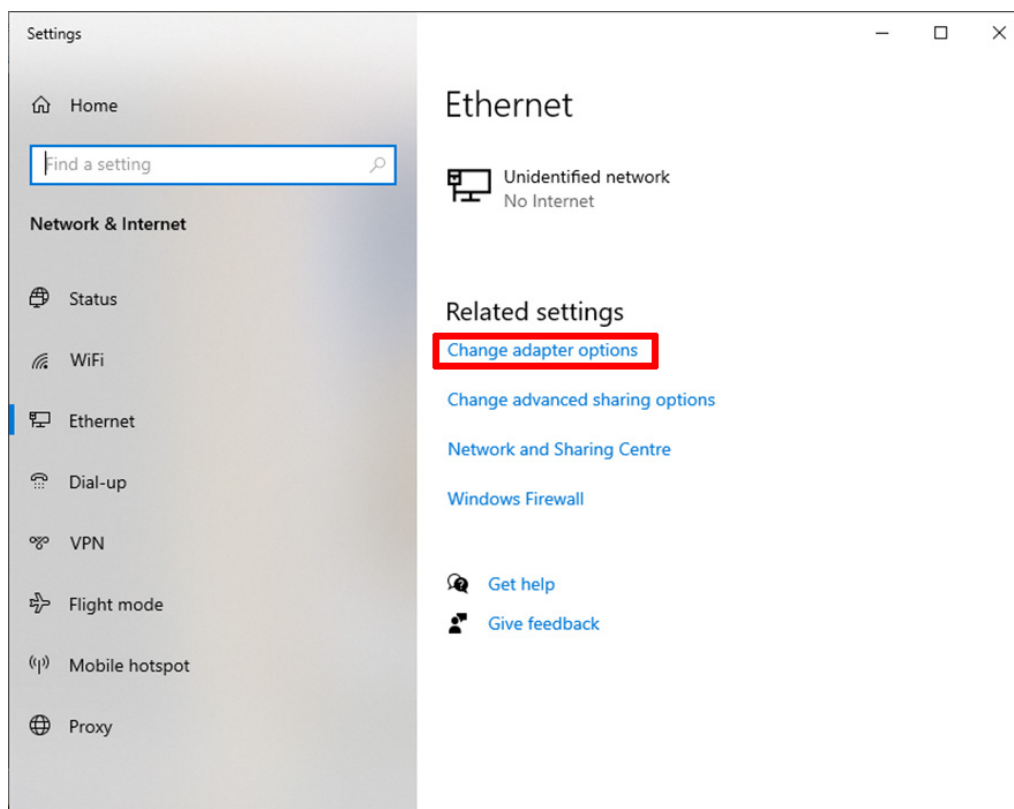

Fig. 4-2 Status screen
- 3) Click on the **Change adapter options** link (See Fig. 4-2).